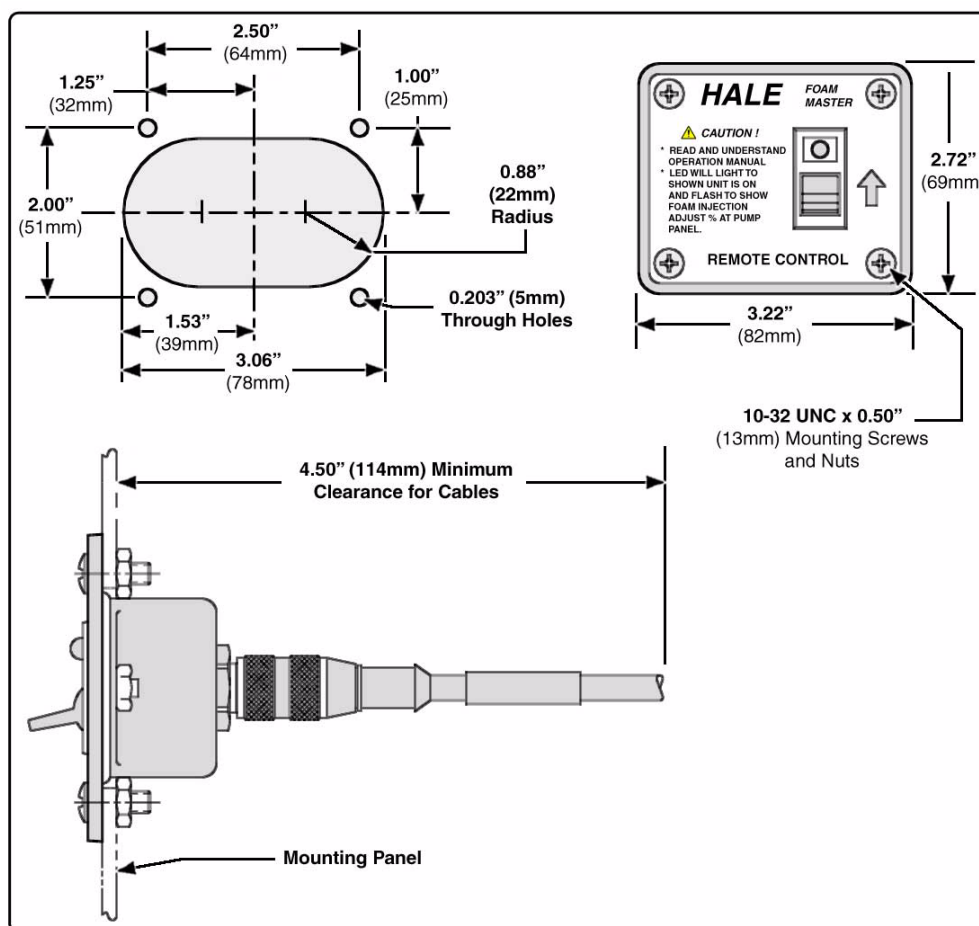

Figure 3-42: Remote Activation Switch Installation Dimensions
(See Figure 3-42: "Remote Activation Switch Installation Dimensions.")
1. Cutout the panel and drill the four 0.203 inch (5mm) diameter through holes. (See Figure 3-42: "Remote Activation Switch Installation Dimensions" on page 100.)